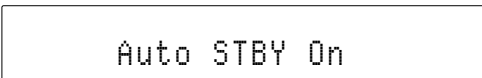

Figure 45
3. To re-activate the Auto Off Feature, press and hold in the (Power) Push-button on the Remote Control for about 5-10 seconds, at which time the Front Panel Display indicates "Auto STBY On". Refer to figure 45.